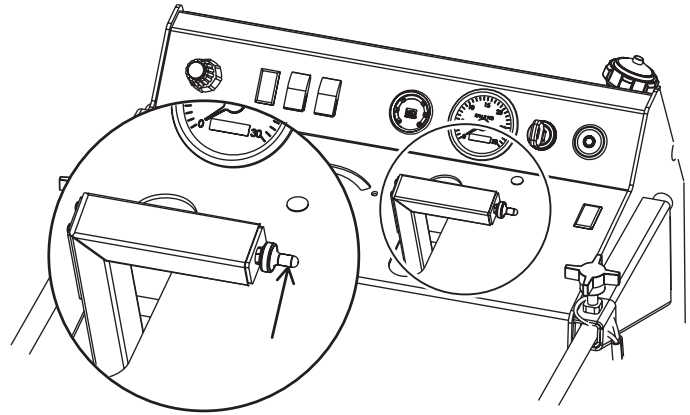

Figure 27. Raise-Lower Control Toggle Switch
- To Lower the blade, push the toggle switch located on the end of the Control Handle FORWARD, ( Figure 27).